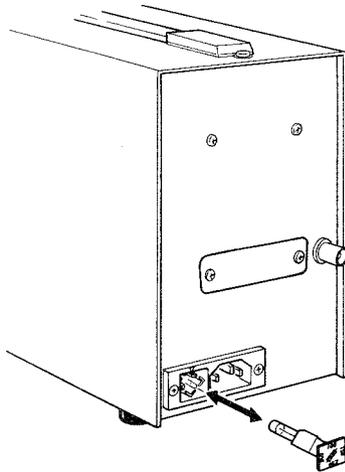

Figure 10 - Replacing the fuse.
(3) Replacing the fuse (see Figure 10)